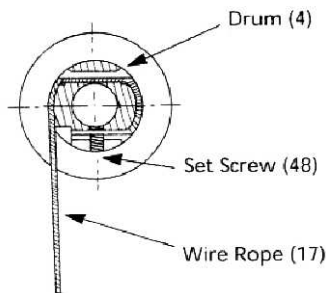

Figure 5 - Attachment of Rope to Drum
Remove the hairpin clip (Ref. No. 45), and push out the clevis pin (Ref. No. 44) so that the other end of the cable assembly (including the supporting wheel) can be removed. See Figures 5 and 5A.
4. Position drum as shown in Figure 5 and push cable through guide (Ref. No. 30) and through top opening in drum and back through bottom opening in drum.